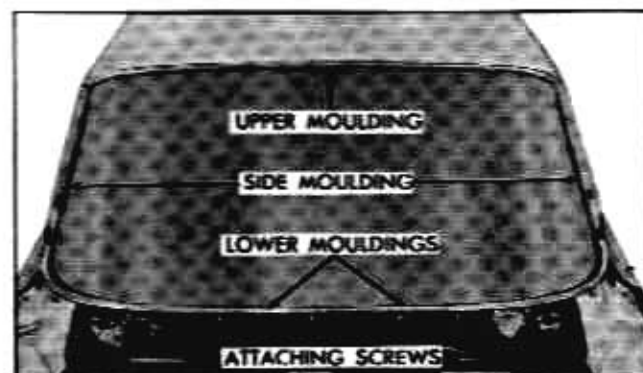

Fig. 1-4 Windshield Reveal Moldings
5. Remove lower reveal molding attaching screws (Fig. 1-4) and remove the molding.